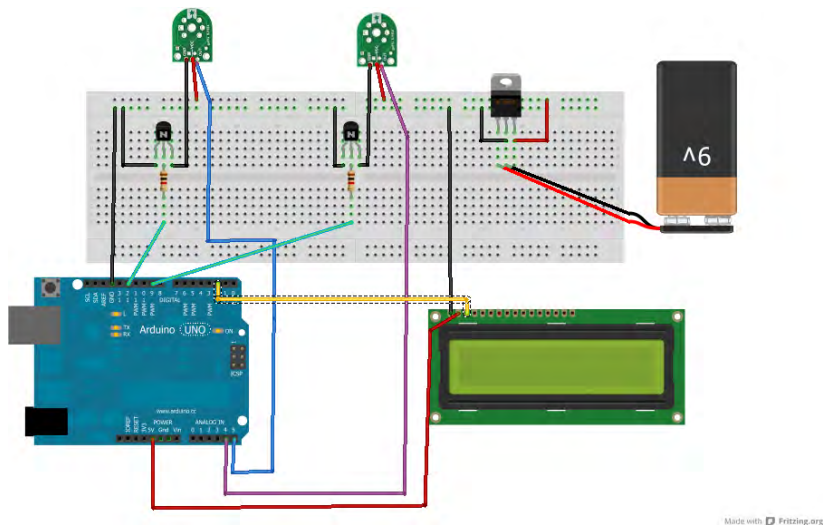

Figure 2-10. Step seven.
7. Connect the GND pin to the GND rail of the breadboard AND to the black (or –) wire on your power supply. Connect the input pin to the red (or +) wire on your power supply. Connect the output pin to the power rail on the breadboard (Figure 2-10).